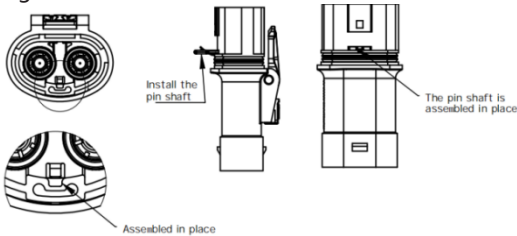

Figure 6-18-5 Install the pin shaft
- 5) Install the pin shaft and check that the anti return card point on the pin shaft is installed in place, as shown in Figure 6-18-5 below.